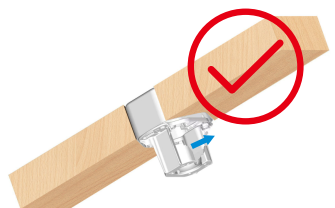
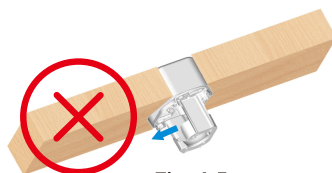

Fig. 4.4
Fig. 4.5
1. When installing the mounting bracket, the bracket groove should be facing upward, as shown in Fig. 4.4. Do not install the bracket with the groove facing downward, as shown in Fig. 4.5.